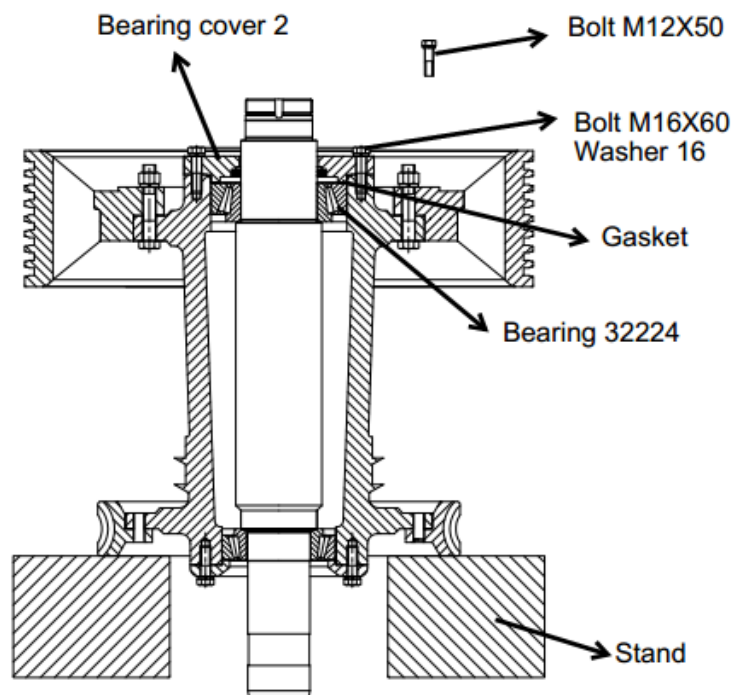

Figure 40 Output Shaft Bearing replacement
3. Turn over the sheave/carrier/ring gear assembly, place two stands under the ring gear surface. See Figure 40.
4. Remove the six Bolts (M16x60) and Washers (16) using an open end wrench (24mm) then use two bolts (M12x50) into threaded holes to push the Bearing cover2 out, Remove the Bearing cover2 and the two bolts (M12x50).